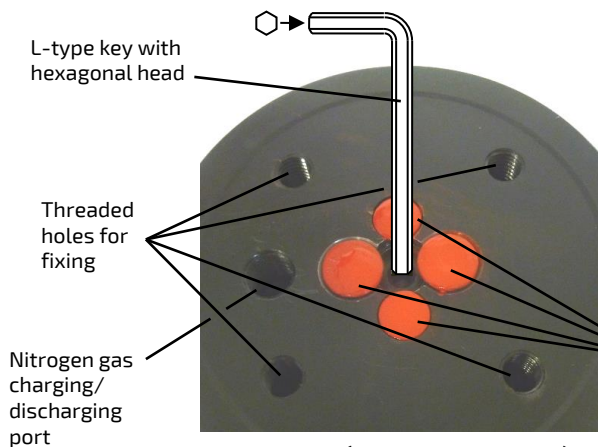

Figure 1 (gas spring base)
This section does not apply to the CRAL gas springs with fixed (non-adjustable) slow-return: they can be identified by the layout of the gas spring base, which only features the threaded holes for fixing and the threaded hole (port) for nitrogen gas charging/discharging (the latter is placed in the centre). This section instead applies only to the CRAL gas springs with adjustable slow-return stroke (braked back-stroke): they can be identified by the layout of the gas spring base shown in *Figure 1* below. For such models, the following instructions apply:
2. Following what is explained in *Figure 1*, start with the closed (fully screwed-in) adjusting screw and open (partially unscrew) it to find the braked stroke that you need. The shorter the braked stroke length, the lower the heat generated by the gas spring.